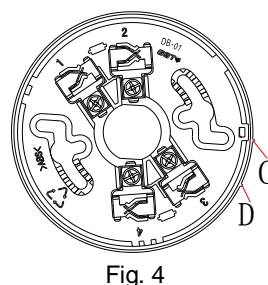

Fig. 4
- Secure the detector base (Fig. 4) with 2 tapping screws, and wire them properly. Align the orientation mark B on the flashing beacon base to mark C of detector base, and rotate the flashing beacon base clockwise to D. Refer to Fig. 3 and 4.